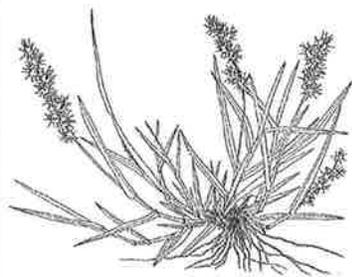

Figure 8-1. Sandspur leaves are rough like sandpaper. The seeds are in sharp burs.
**Sandspur**, or sandbur (Figure 8-1), germinates in the spring, grows during the summer and early fall, and dies with the first heavy frost.